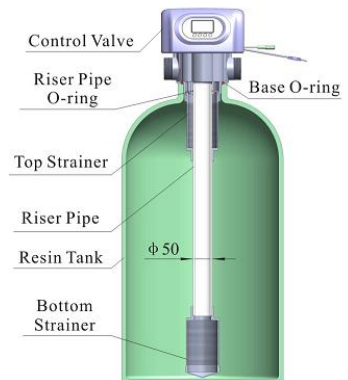

Figure 1-1
a. As the Figure1-1 shows, select the relevant riser pipe, glue the riser pipe to the bottom strainer and put it into the bottom of